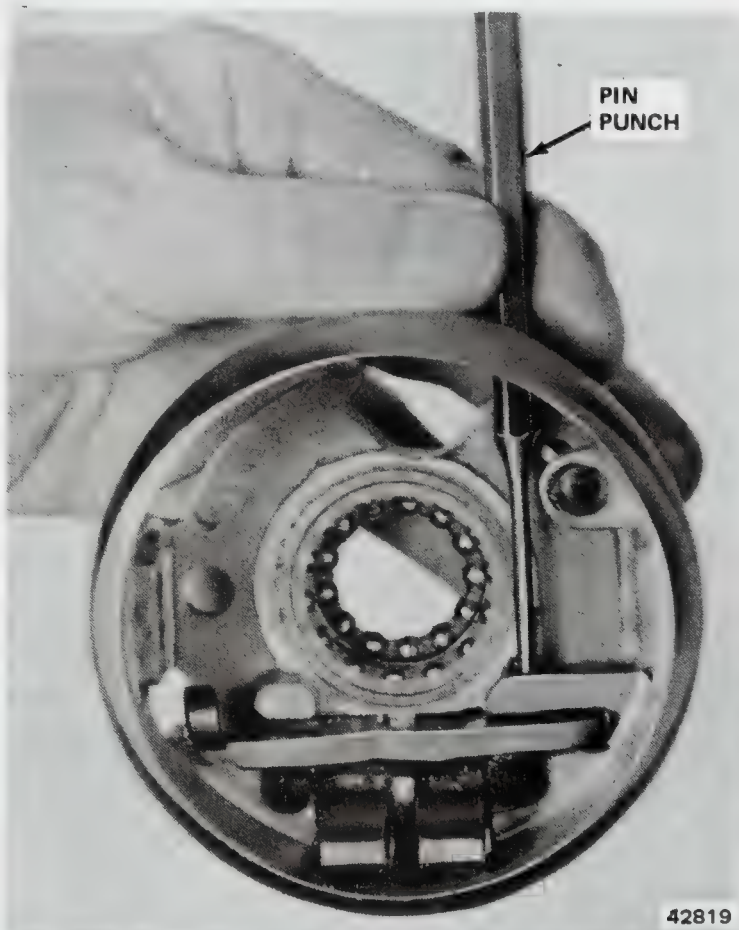

Fig. 2H-23 Release Lever Pin Removal
(32) Remove steering shaft from upper end of column.
(33) Disassemble shaft by bending it 90° at spherical joint and disengaging upper and lower shaft sections (fig. 2H-25).
(34) Remove ignition switch from base of column.
(35) Remove lock rack and remote rod.
(36) Remove lower bearing snap ring, retainer, bearing and adapter, and preload spring.
(37) Remove support attaching screws and remove support.
(38) Remove shift gate retaining pin and remove shift gate.
(39) Remove shift tube retainer ring and thrust washer.